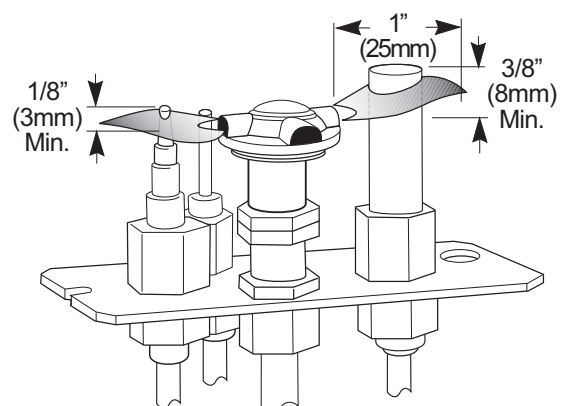

Figure 28. Proper pilot flame appearance.
2. PILOT FLAME: You can monitor the pilot flame through the view port located at the rear of the Right Log. See fig. 28. The pilot flame should be steady - not lifting or floating. The flame should be blue in color around the pilot hood, with traces of yellow toward the outer edges.
The pilot flame should engulf the top 3/8" of the thermopile (to generate millivolt current) and the top 1/8" of the thermocouple. The pilot flame should project out of the pilot hood 1" at all three ports. See fig. 28.